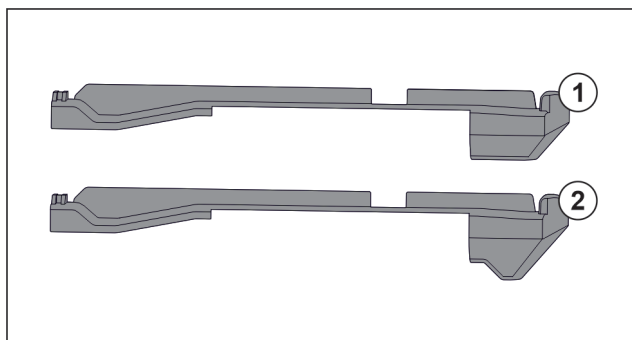

Fig. 150 Comparing attachments
There are two different attachments in the appliance. The attachment above the lowest drawer Fig. 150 (2) has a three-cornered edge. All other attachments Fig. 150 (1) have a straight edge.
- Fit attachment Fig. 150 (2) with the three-cornered edge above the lowest drawer.
- Fit attachment Fig. 150 (1) with straight edge in all other positions.